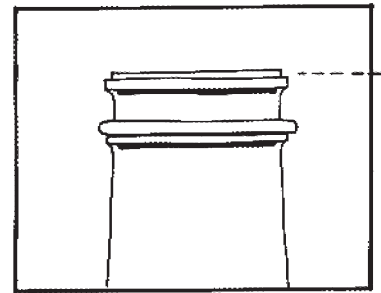
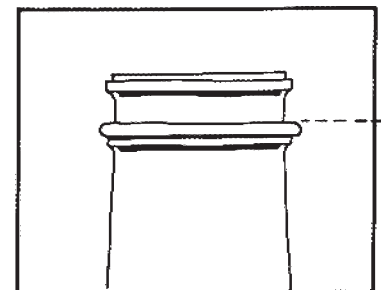
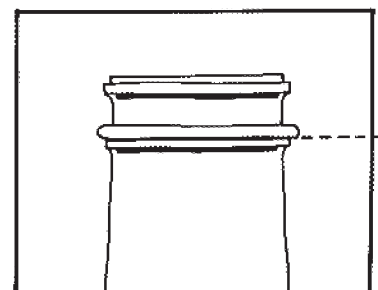

FIGURE 5-3
FIGURE 5-4
FIGURE 5-5
2. Trim top of shaft for the type of capital you will be installing. For fiberglass or poly caps, trim to the fillet (top molding) (Fig. 5-3). For Temple of Winds and Roman Corinthian capitals, trim column at the top of the neck ring molding (Fig. 5-4). For Ionic type capitals, trim column immediately below neck ring (Fig. 5-5).